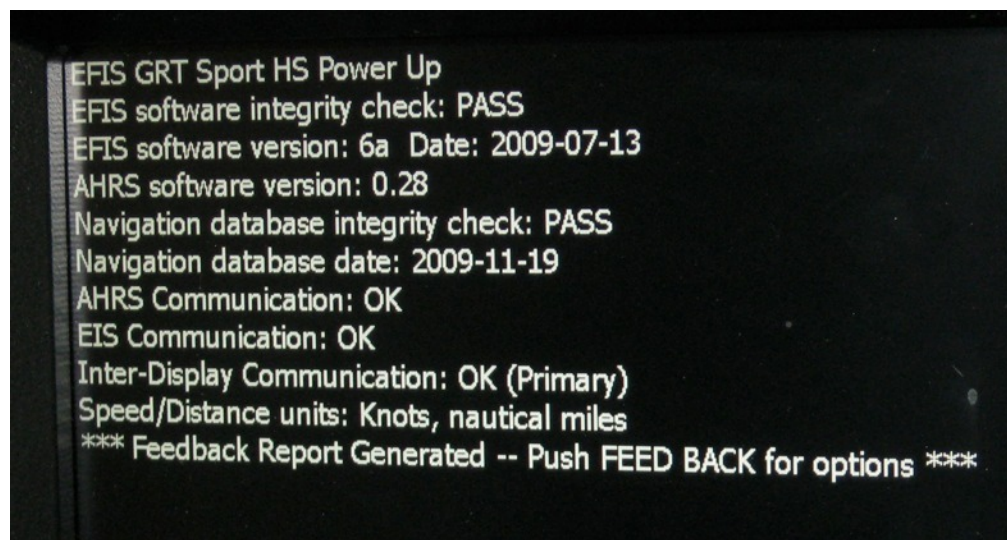

Figure 11-3: GRT Sport HS EFIS unit power-up page
1. If not already known, determine unit model, EFIS software version, and navigation database date by turning on the MASTER and INST switches and waiting for the unit to power-up. The Power-Up page in Figure 11-3 will display on the PFD and MFD screen if installed. Write down any information needed from both screens and shut off master switch.